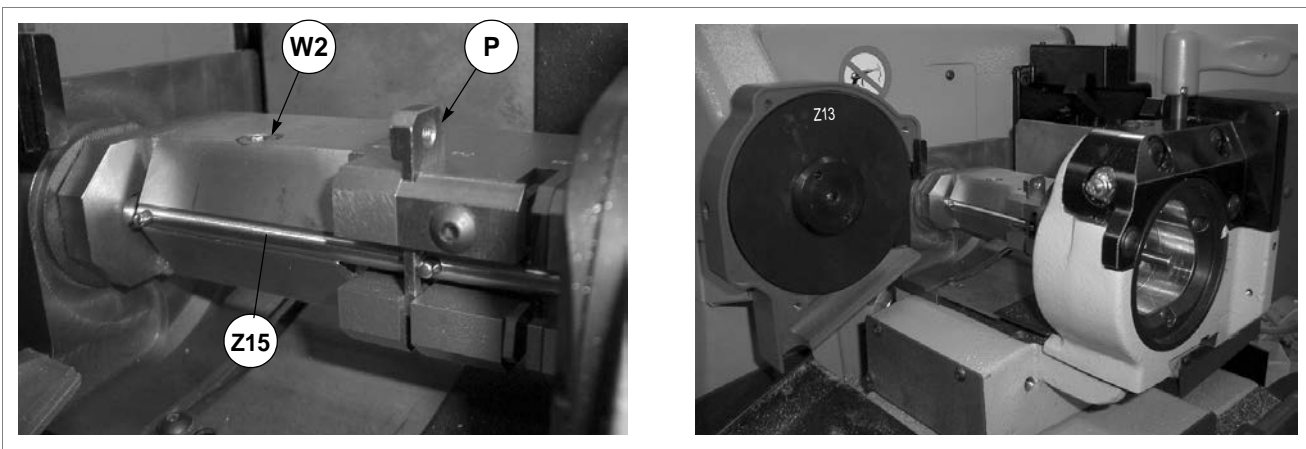

Fig. 102
Template Z13 = fit in place of the cutter (fig. 102).
Template Z15 = fit on the S1-K2 clamp as if it were a key (fig. 102). Use the plate (P) as a point of reference in position 2 with the second pin on the template up against it. Tighten the screw (W2) with the (T4) wrench. Replace the (T4) wrench in its seat.